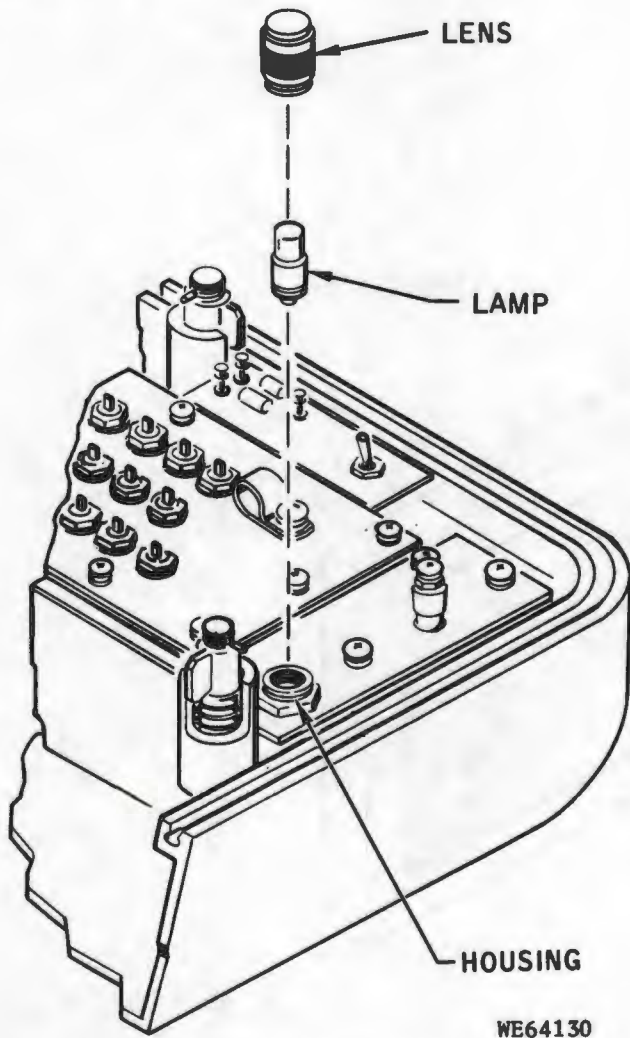

Figure 3-18. Transmitter-receiver power indicator lamp replacement.
3. Remove and replace lamp as shown in figure 3-18.
(b) *Power indicator lamp replacement.* The power indicator lamp is located on the inside of the transmitter-receiver front panel. When the lamp requires replacement, proceed as follows (fig. 3-18):